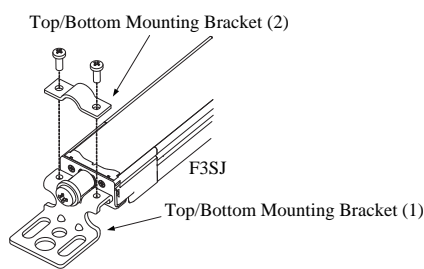

Fig. 1 Detaching Top/Bottom Mounting Brackets
1. Remove the top/bottom mounting bracket screws (included with F3SJ) and detach the top/bottom mounting brackets (2) (Fig. 1). Attach protection brackets (1) and (2) to the top/bottom mounting brackets (1) using washer assembled socket cap screws(M3). Tighten both bolts alternately at the same time. The protection bracket may be tilted if the bolts are tightened one at a time.